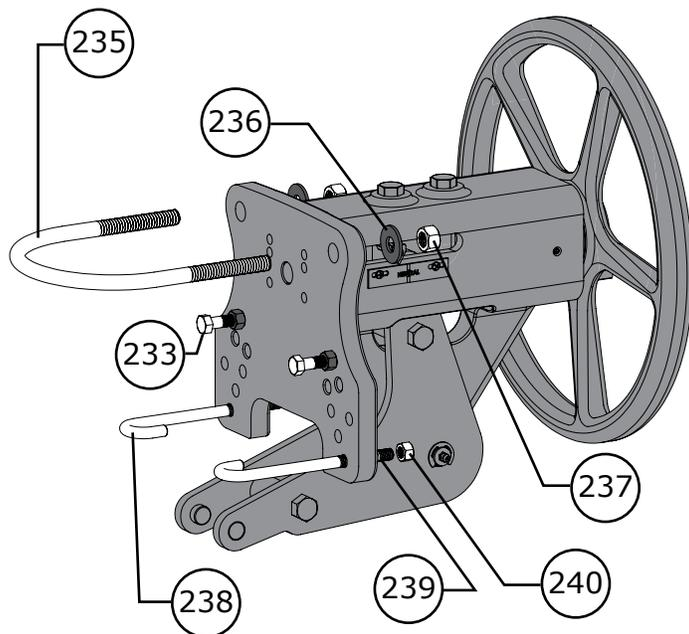

Figure 39 Side-Mounted Handwheel Mounting Fittings
- 4 Remove any mounting fittings that may be attached to the side-mounted handwheel body during shipping. These fittings will include the u-bolt (Key 235), mounting hooks (Key 238), and jack screws (Key 233). Refer to Figure 39. **NOTE:** Dowel pins (Key 232) will be shipped stored in a bag along with other fittings.